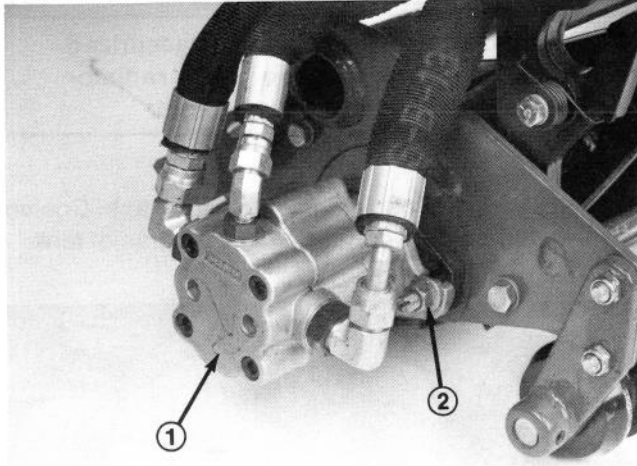

Figure 13
9. Assemble the mounting nuts for the reel drive motor to each cutting unit (Fig. 13). Leave approximately 1/2" of threads exposed on each mounting stud.